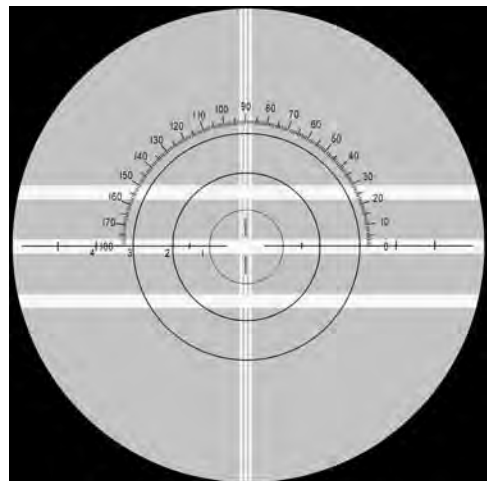

Figure SU-11 Zero Power
8. The power scale should read "0". Refer to Figure SU-11.